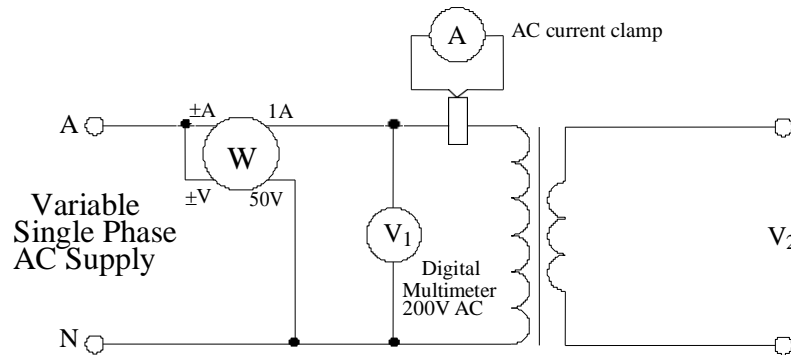

Figure 1
1. Connect the circuit shown in figure 1, using the 42V winding as the primary.